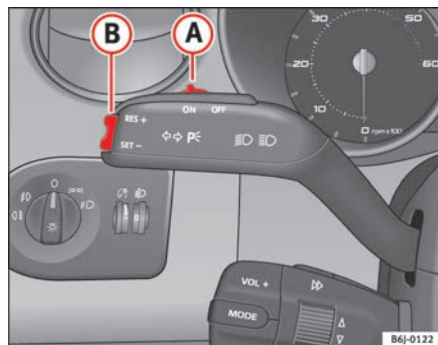

Fig. 103 Indicator and main beam headlight lever: switch and rocker switch for the cruise control
- Move the control ⇒ fig. 103 **A** to the left to **ON**.